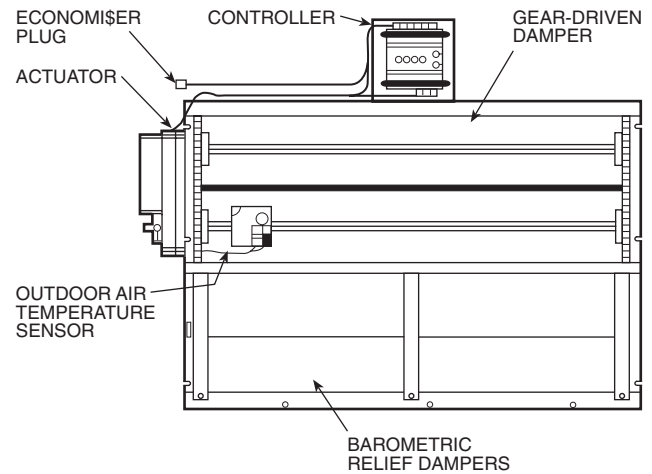

Fig. 22 — EconoMiSer Component Locations
See Fig. 22 for EconoMiSer component locations.
- Controller should be mounted in vertical position as shown in Fig. 22.